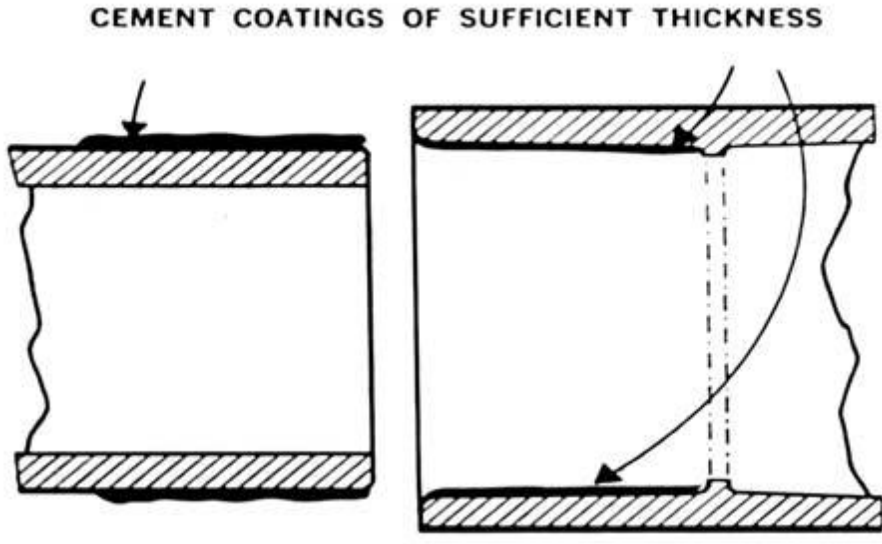

Figure 2: Solvent Cement Coatings of Sufficient Thickness
3. More than sufficient to fill the loose part of the joint must be applied (see Figure 2). Besides filling the gap, adequate solvent cement layers will penetrate the surfaces and also remain wet until the joint is assembled.